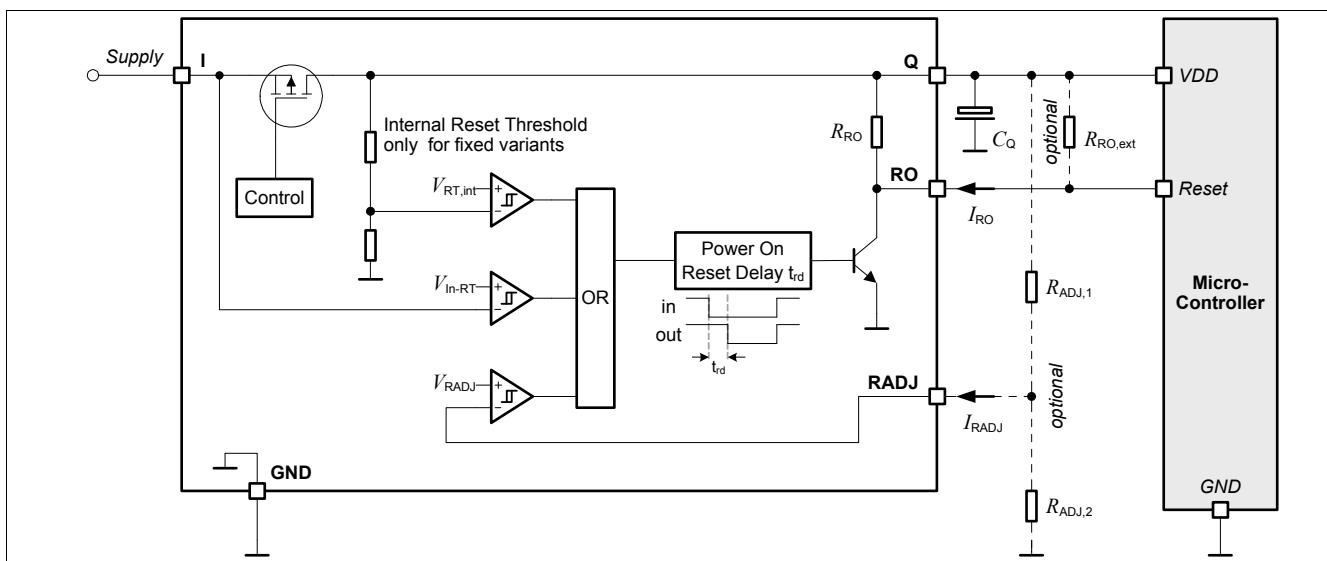

Figure 8 Block Diagram Reset Circuit
- $R_{ADJ,1}, R_{ADJ,2}$: Resistors of the external voltage divider, see Figure 8.